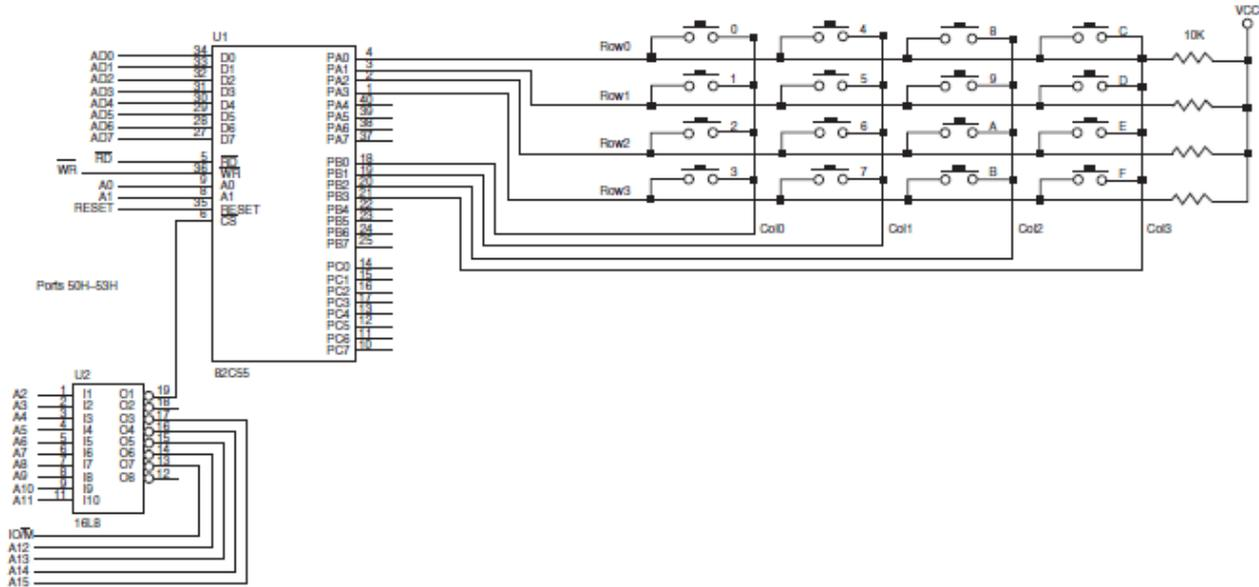

Figure 11-25: A 4*4 keyboard matrix connected to an 8088 microprocessor through the 82C55 PIA
- Key-matrix contains 16 switches interfaced to ports A and B of an 82C55 (Figure 11-25).